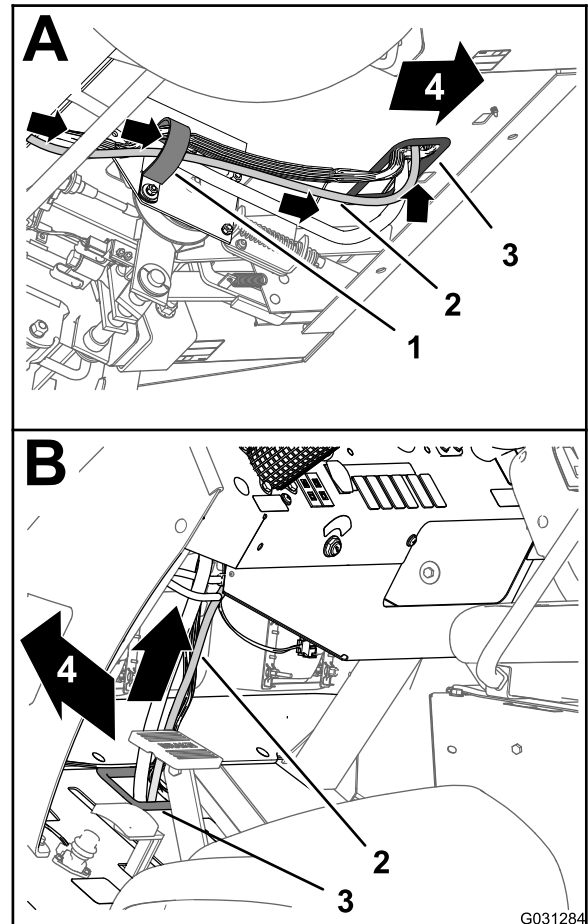

**Figure 148**
- At the right side of the engine compartment, route the 226 cm (89 inches) data-harness branch for the sprayer monitor forward of the air filter for the engine and down toward the lower right corner of the radiator (Figure 148).
- Route the route the 226 cm (89 inches) data-harness branch forward and through the 2 R-clamps at the bottom of the machine (Figure 148).